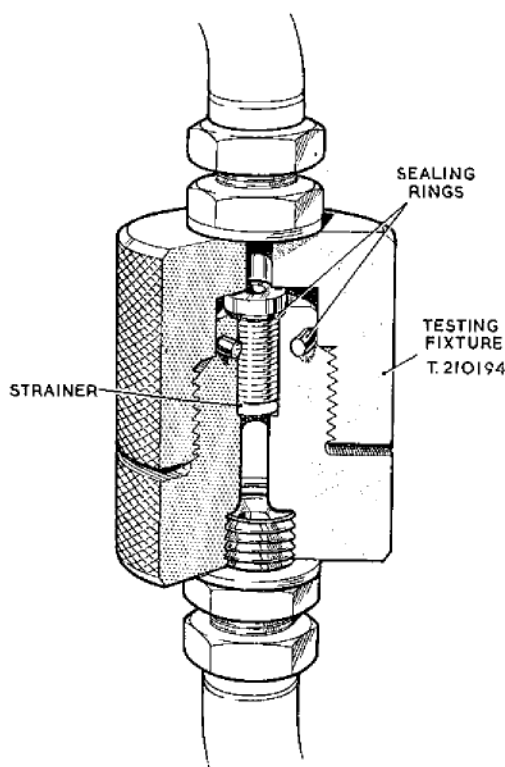

Fig. 3. Testing the strainer
59. Before rebuilding the rocker lever and orifice assembly the strainer must be subjected to a pressure drop test. Fit the strainer to the adapter T.210194 (*fig. 3*) and connect to the adapter a fuel supply line and a pressure gauge. Apply a flow of 50 gallons per hour. The indicated pressure drop must not exceed